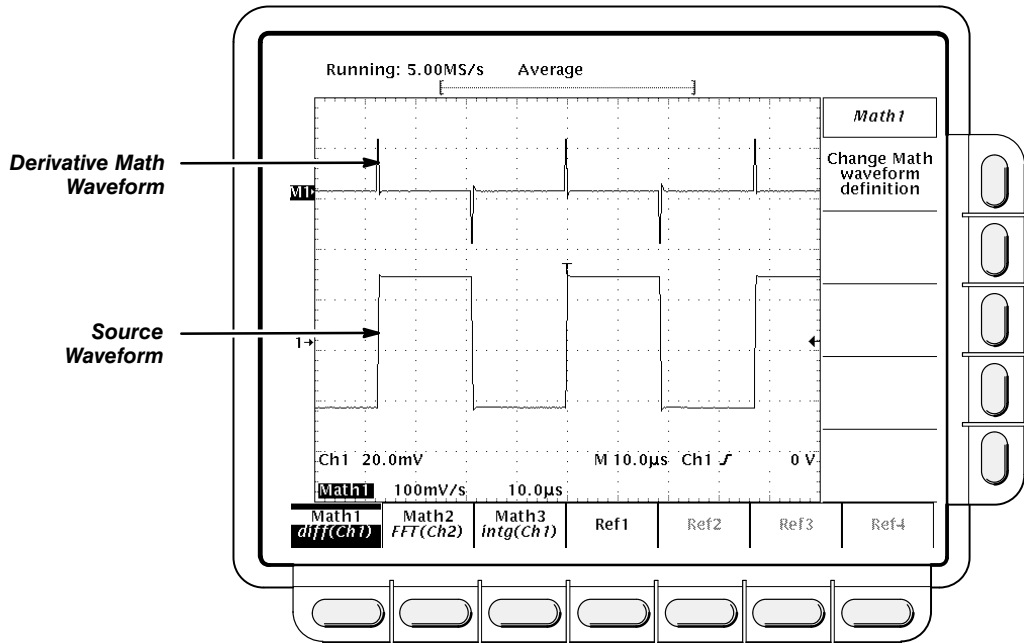

Figure 3-75: Derivative Math Waveform
- Expand the waveform horizontally on screen. (Select the source channel and increase the horizontal scale using the horizontal **SCALE** knob.) For instance, if you display the source waveform illustrated in Figure 3-75 on page 3-140 so its rising and falling edges are displayed over more horizontal divisions, the amplitude of the corresponding derivative pulse will decrease.